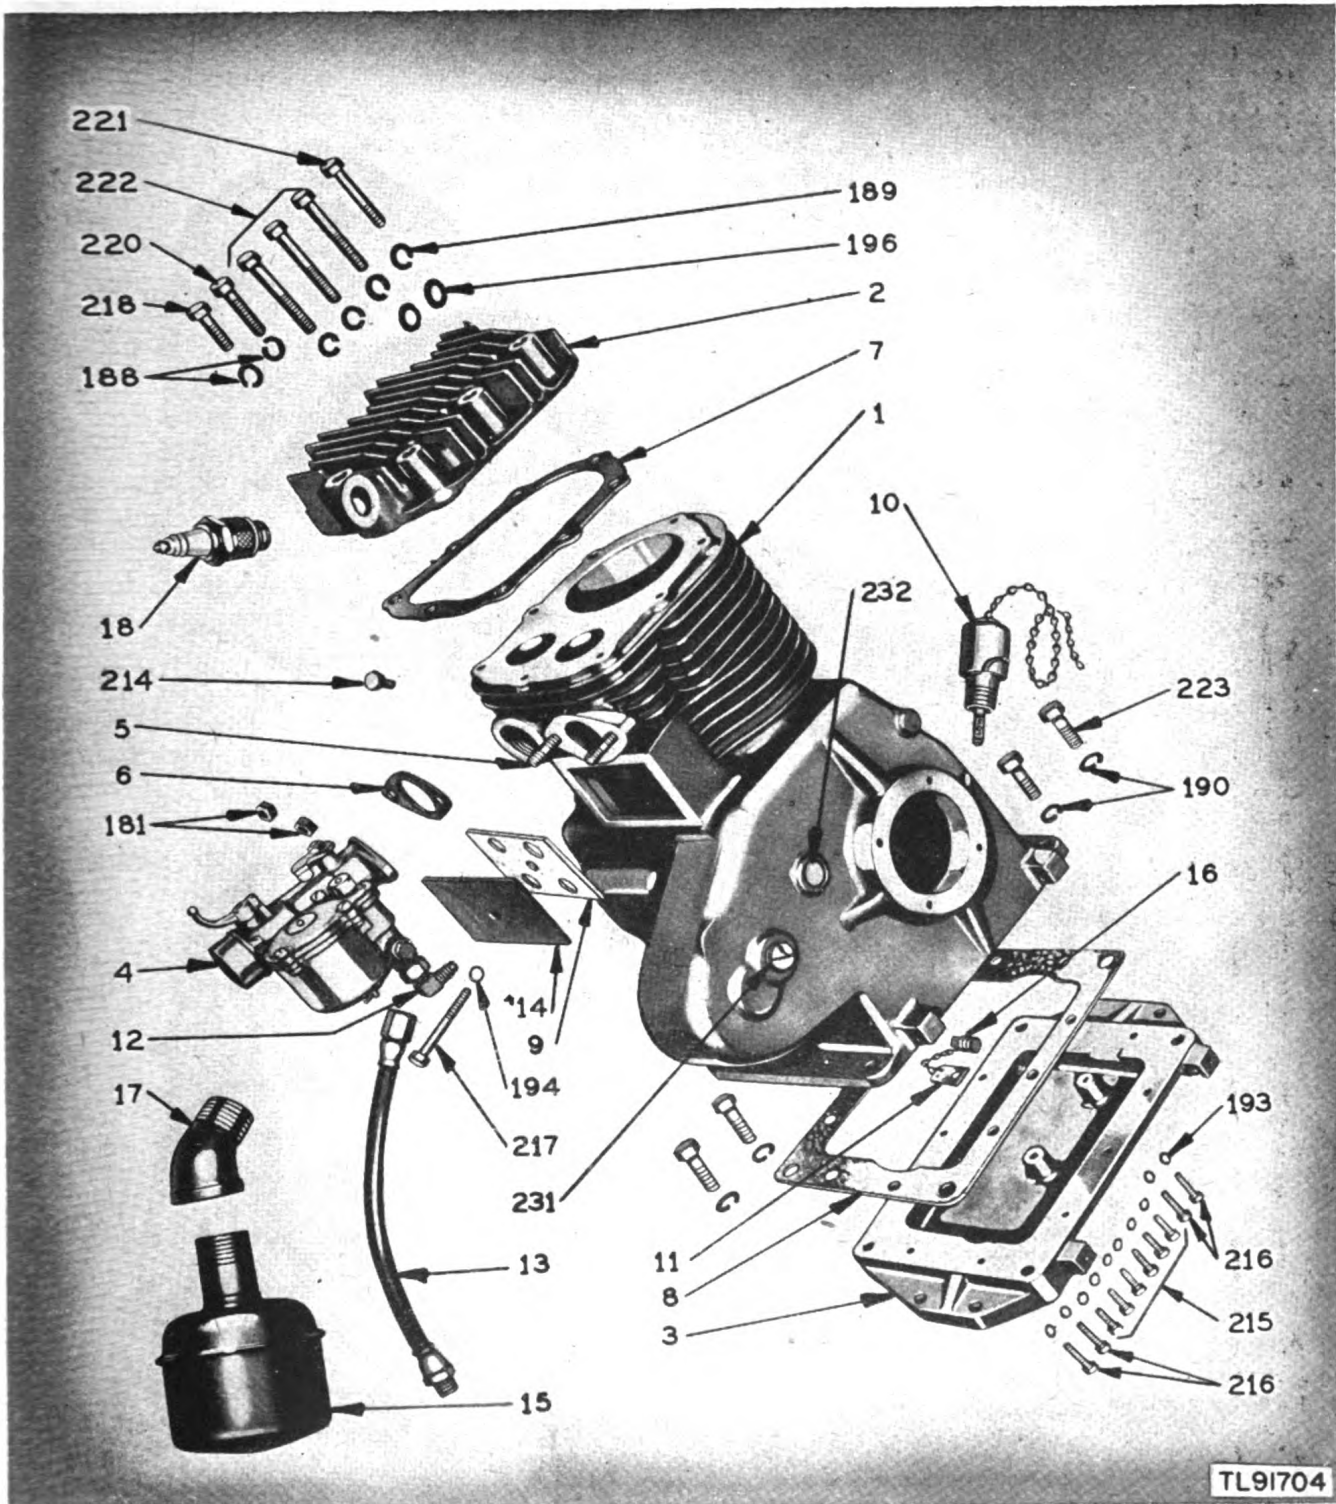
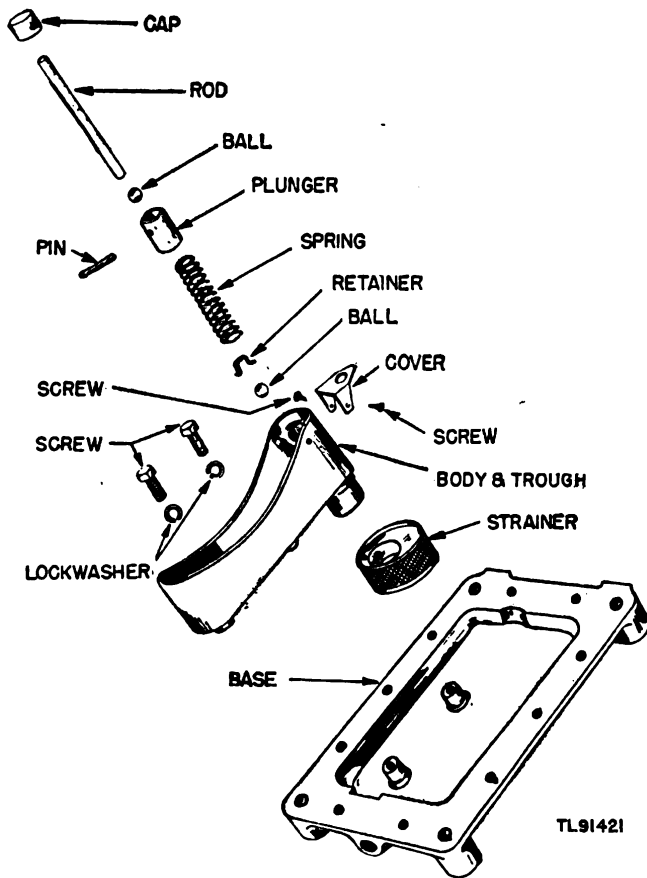

Figure 71. Main engine parts.
Figure 79. Oil pump assembly.
Disassembly of and repair maintenance on the main parts of the engine will be discussed in subsequent paragraphs. Figure 71 shows the engine completely disassembled and indicates its main parts.
a. Shut off the fuel supply and disconnect the fuel lines (fig. 71(13)) and governor-control
b. Remove the oil-bath air cleaner or filter. (See fig. 32.) Remove the carburetor (fig. 71(4)) from the engine.
l. Place the carburetor back on the engine, connect the fuel line (fig. 71(13)) and open the fuel valve. Make sure that the unit is set perfectly level. Check the fuel level in the float chamber. (See fig. 73(124).) The level of the
a. DISASSEMBLY. To remove the cylinder head (fig. 71(2)) for the removal of carbon, valve grinding, or piston ring or piston replace-
ment, shut off the fuel supply and remove the fuel line (fig. 71(13)) and fuel tank. (See figs. 4, 5, and 6.) Observe the following procedure:
(1) Remove the spark plug (fig. 71(18)) and spark-plug shield. (See fig. 38(14).)
(3) Remove the cylinder head cap screws (fig. 71(218), (220), (221), and (222)) and lift off the cylinder head (fig. 71(2)).
(2) Inspect the valves while the cylinder head is removed and grind them if necessary. (See par. 96.) If no further work is to be done, replace the cylinder head. Use a new gasket if possible. Tighten the head fastenings (fig. 71 (2)) a little at a time so that the head is pulled down evenly on all sides.
(1) Remove the cylinder head as instructed. (See par. 95.)
(2) Remove the carburetor (par. 93) and remove the valve-cover plate and gasket (fig. 71 (14) and (9)) from the side of the cylinder.
(fig. 79) necessitates the removal of the engine (fig. 26) from the skid base and disconnecting the generator (fig. 53) from the engine. When the generator has been disconnected from the engine by disengaging the generator end of the coupling hub at the floating center disk assembly (fig. 53), drain the engine crankcase and remove the engine from the skid base by removing the U-bolts. (See figs. 4, 5, and 6.)
(2) Drain the fuel tank and turn the engine on its side. Remove the screws and washers (figs. 71(215), (216), and (193)) that hold the base to the engine and remove the base (fig. 71(3)). The oil trough and oil pump assembly (fig. 79) will come off as a part of the engine base.
(3) Remove the cap (fig. 79(71)) that holds the oil pump plunger by removing the two screws that hold it in place. Hold a screw driver against the plunger to prevent its popping out as the cap is removed. Lift the plunger and spring (fig. 79) out of the pump cylinder bore. Turn the oil-pump body and trough assembly (fig. 79) over and permit the check ball to drop out. Remove the two cap screws that hold the trough assembly to the base and remove the assembly. (See fig. 79.)
b. INSPECTION AND REPLACEMENT. (1) Check all pump parts for wear and wash them thoroughly in Diesel oil. Replace all parts that appear to be worn.
(2) In reassembling the oil pump, fit the plunger (fig. 79) to the bore with a clearance of between 0.0035 and 0.006 inch. If this clearance is greater than 0.010 inch, replace the plunger and the oil-pump body. Inspect the check-ball seat in the bottom of the pump cylinder. This seat must be perfectly clean and not worn or pitted.
(3) Drop the check-ball (fig. 79) into the cylinder and tap it lightly into its seat with a punch and hammer. Next, drive the retaining pin (fig. 79) into place. Clean up any bur on the plunger that may have been caused by driving the retaining pin into place. Insert the plunger in the cylinder and hold it in place with a screw driver while replacing the retainer cap.
(4) Fill the base with about $\frac{1}{2}$ pint of engine oil (OE) and with a screw driver pump the piston up and down to pump oil into the trough. If no oil is discharged into the trough, the pump and body are worn and must be replaced.